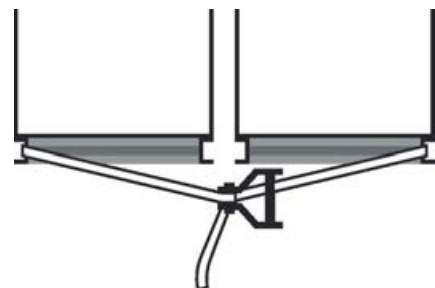

Fig. 15: Attaching a ratchet strap
- ▶ Attach a ratchet strap to the base frames of two AHU casing units (Fig. 15).